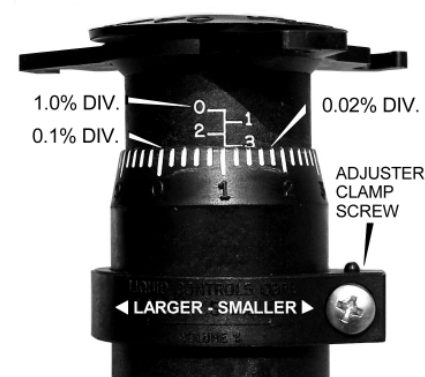

Figure 3B - Adjuster Detail
5. Loosen the adjuster clamp screw. See Figure 3B.